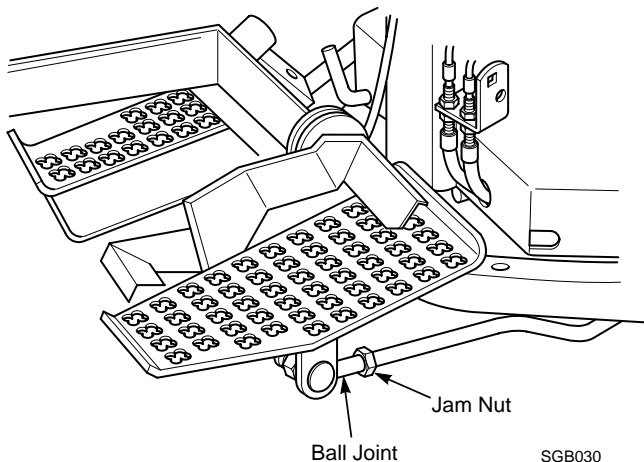

Figure 6-3. Foot Control Pedal Adjustment
5. Check the adjustment of the right foot control pedal for full forward speed. The pedal should rest on the foot plate when the pump is stroked in the full forward position. To make an adjustment, disconnect the ball joint from the pedal arm and loosen the jam nut. See Figure 6-3. Place the foot control pedal forward against the foot rest and adjust the ball joint on the rod until the stud aligns with the hole in the arm. Bolt the ball joint to the arm and tighten the jam nut.